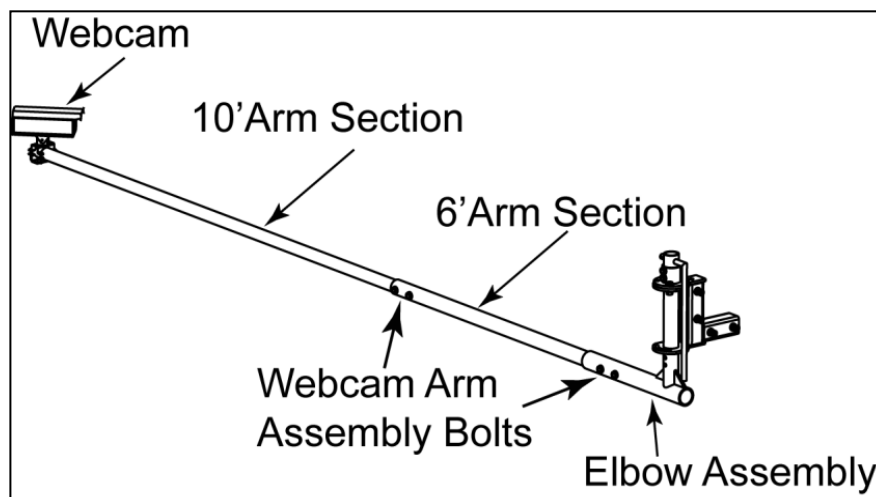

Figure 27: 15' Webcam Arm Assembly
10. Slide the webcam arm into the lower part of the elbow arm assembly. The webcam arm slides 12" into the elbow assembly. Refer to **Figure 27**.